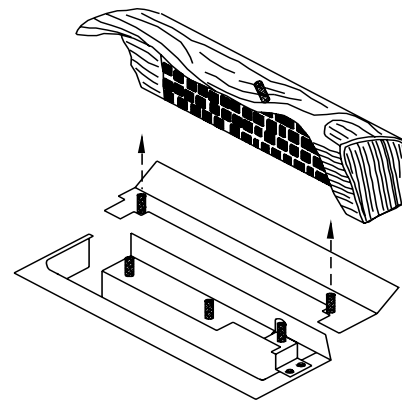

Figure 10
- 2) Align the holes in the bottom of the rear log (the longest log in the set) with the two pegs just to the rear of the rear burner tube and slide the log down onto the pegs (Figure 10). The charred black surface of the log should face the front.